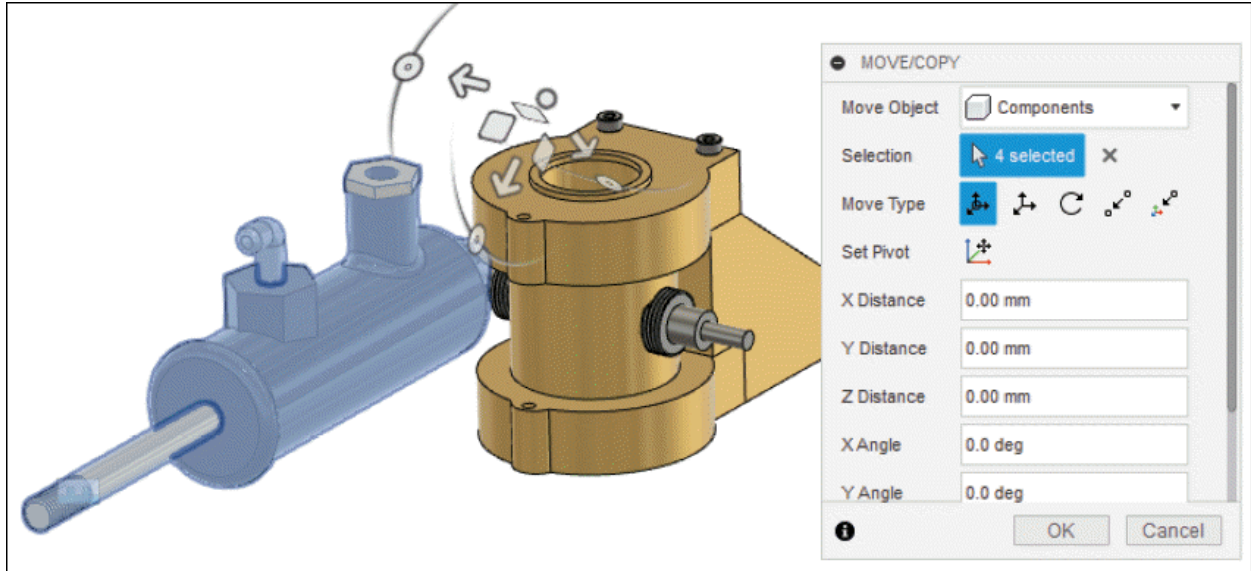

Figure-97. MOVE COPY dialog box along with drag handle
- Right-click in the empty area of the screen, a **Marking Menu** will be displayed. Select **Paste** option from the **Marking Menu**. The **MOVE/COPY** dialog box will be displayed along with the drag handle; refer to Figure-97.